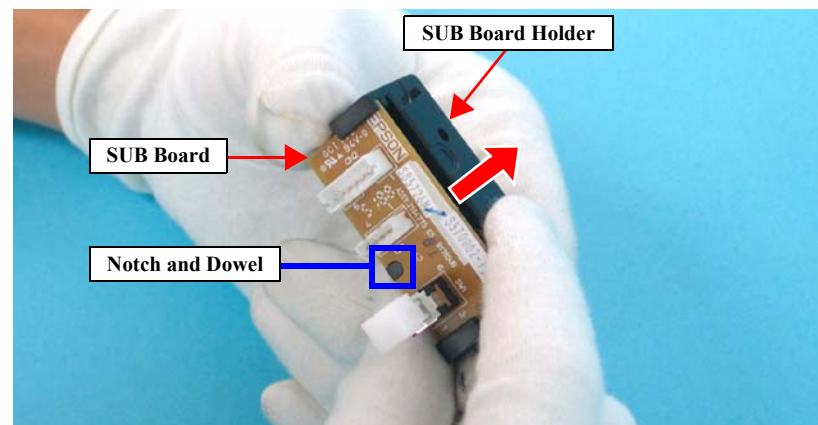

Figure 4-13. Removing the SUB Board Unit (2)
- When installing the SUB Board to the Sub Board Holder, match the notch and tab as shown in Figure 4-13.